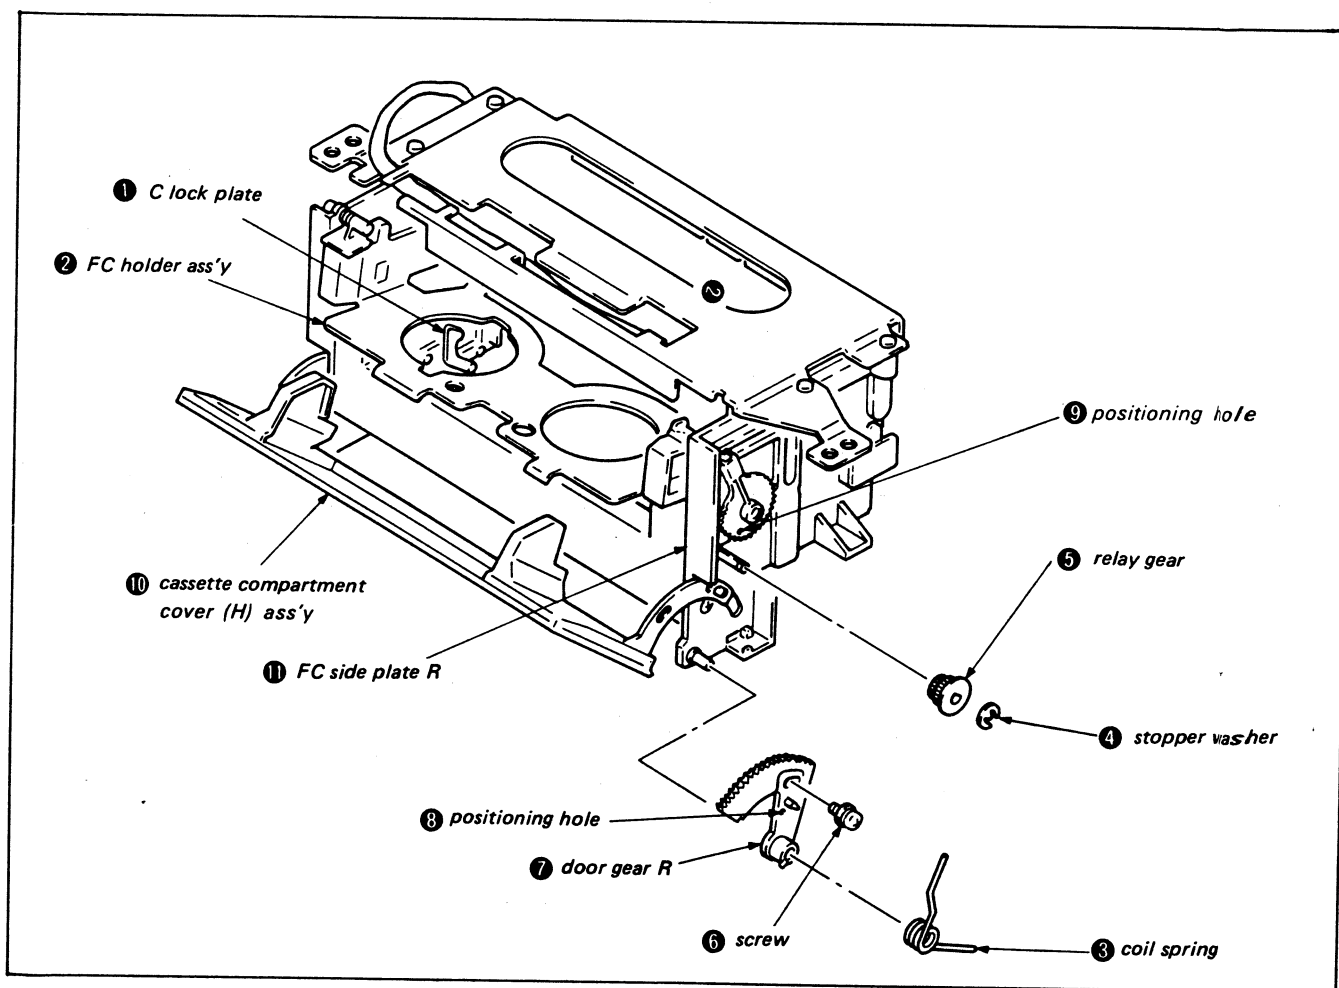

Fig. 3-57.
- 3) Remove coil spring ③.
- 4) Remove stopper washer ④ and relay gear ⑤.
- 5) Remove screw ⑥ and replace door gear R ⑦.
- 6) Insert thin rods into door gear R ⑦ positioning hold ⑧ and drive gear (R) positioning hole ⑨.
- 7) Engage the relay gear ⑤ with both gears and mount stopper washer ④.
- 8) Temporarily tighten screw ⑥.
- 10) Close cassette compartment cover (H) assembly ⑩ and confirm that the FC holder assembly ② locks.
- 11) Insert a finger between the cassette compartment cover (H) assembly ⑩ and FC side plate R ⑪ so that they become parallel, and tighten screw ⑥.
- 12) Mount coil spring ③.
- 13) Release C lock plate ① and confirm that FC holder assembly ② comes up and cassette compartment cover (H) assembly ⑩ opens. Also, check that the FC holder assembly ② goes down and locks when the cassette compartment cover (H) assembly ⑩ is closed. (Fig. 3-57)